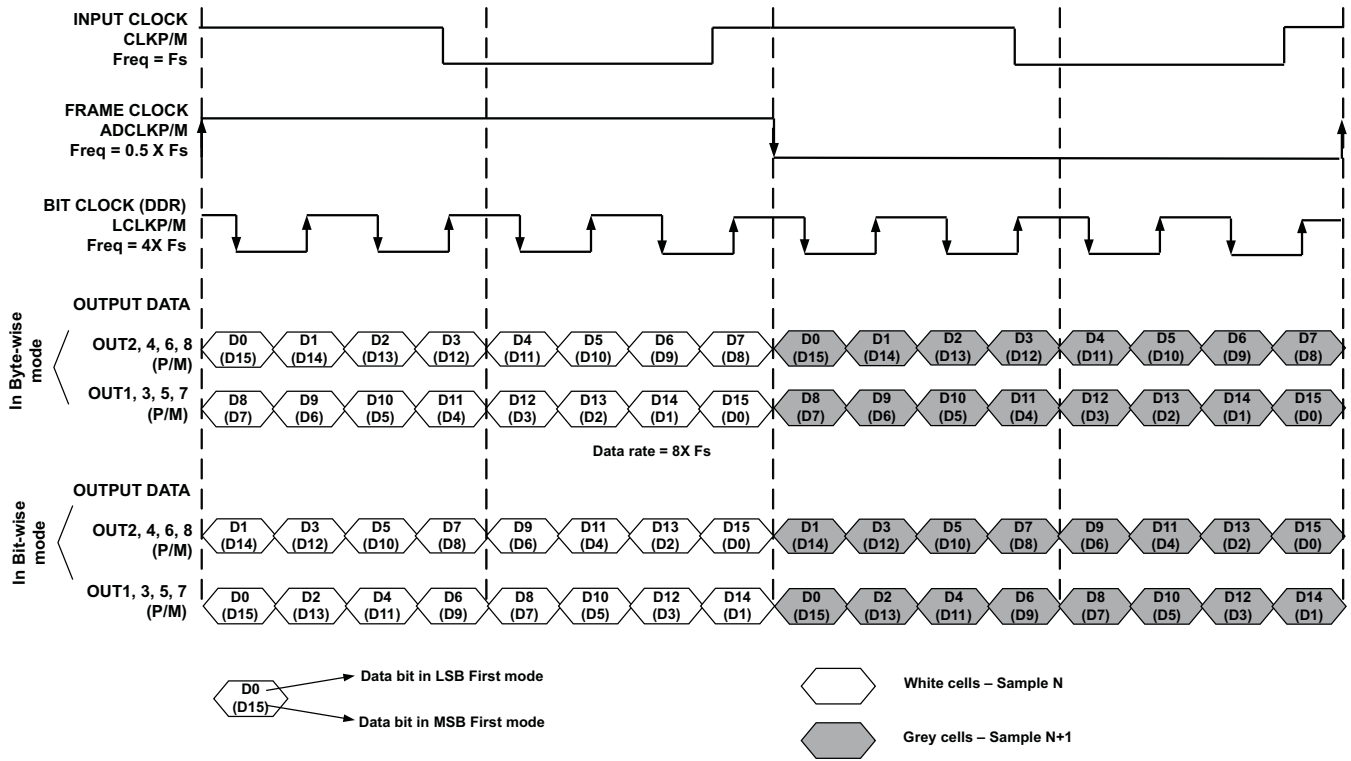

Figure 54. LVDS Output Interface, 2-Lane, 8× Serialization, Byte-wise and Bit-wise Modes
2. 2-wire, 8× serialization with DDR bit clock and 0.5× frame clock (16 bit ADC mode, Figure 54 and Figure 55)